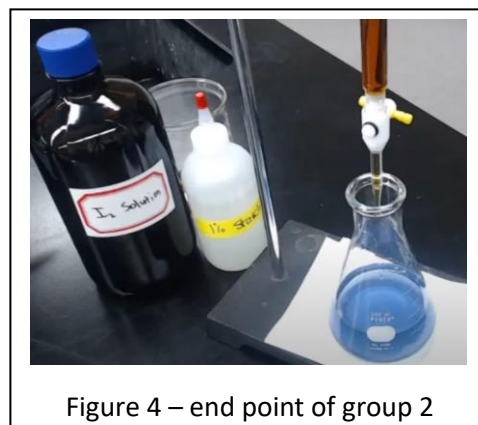

Figure 4 – end point of group 2
- f. Another group conducted the same experiment and got the results shown in fig. 4. Indicate how the average titre for group 2 would differ from the previous group's results and give a detailed explanation.